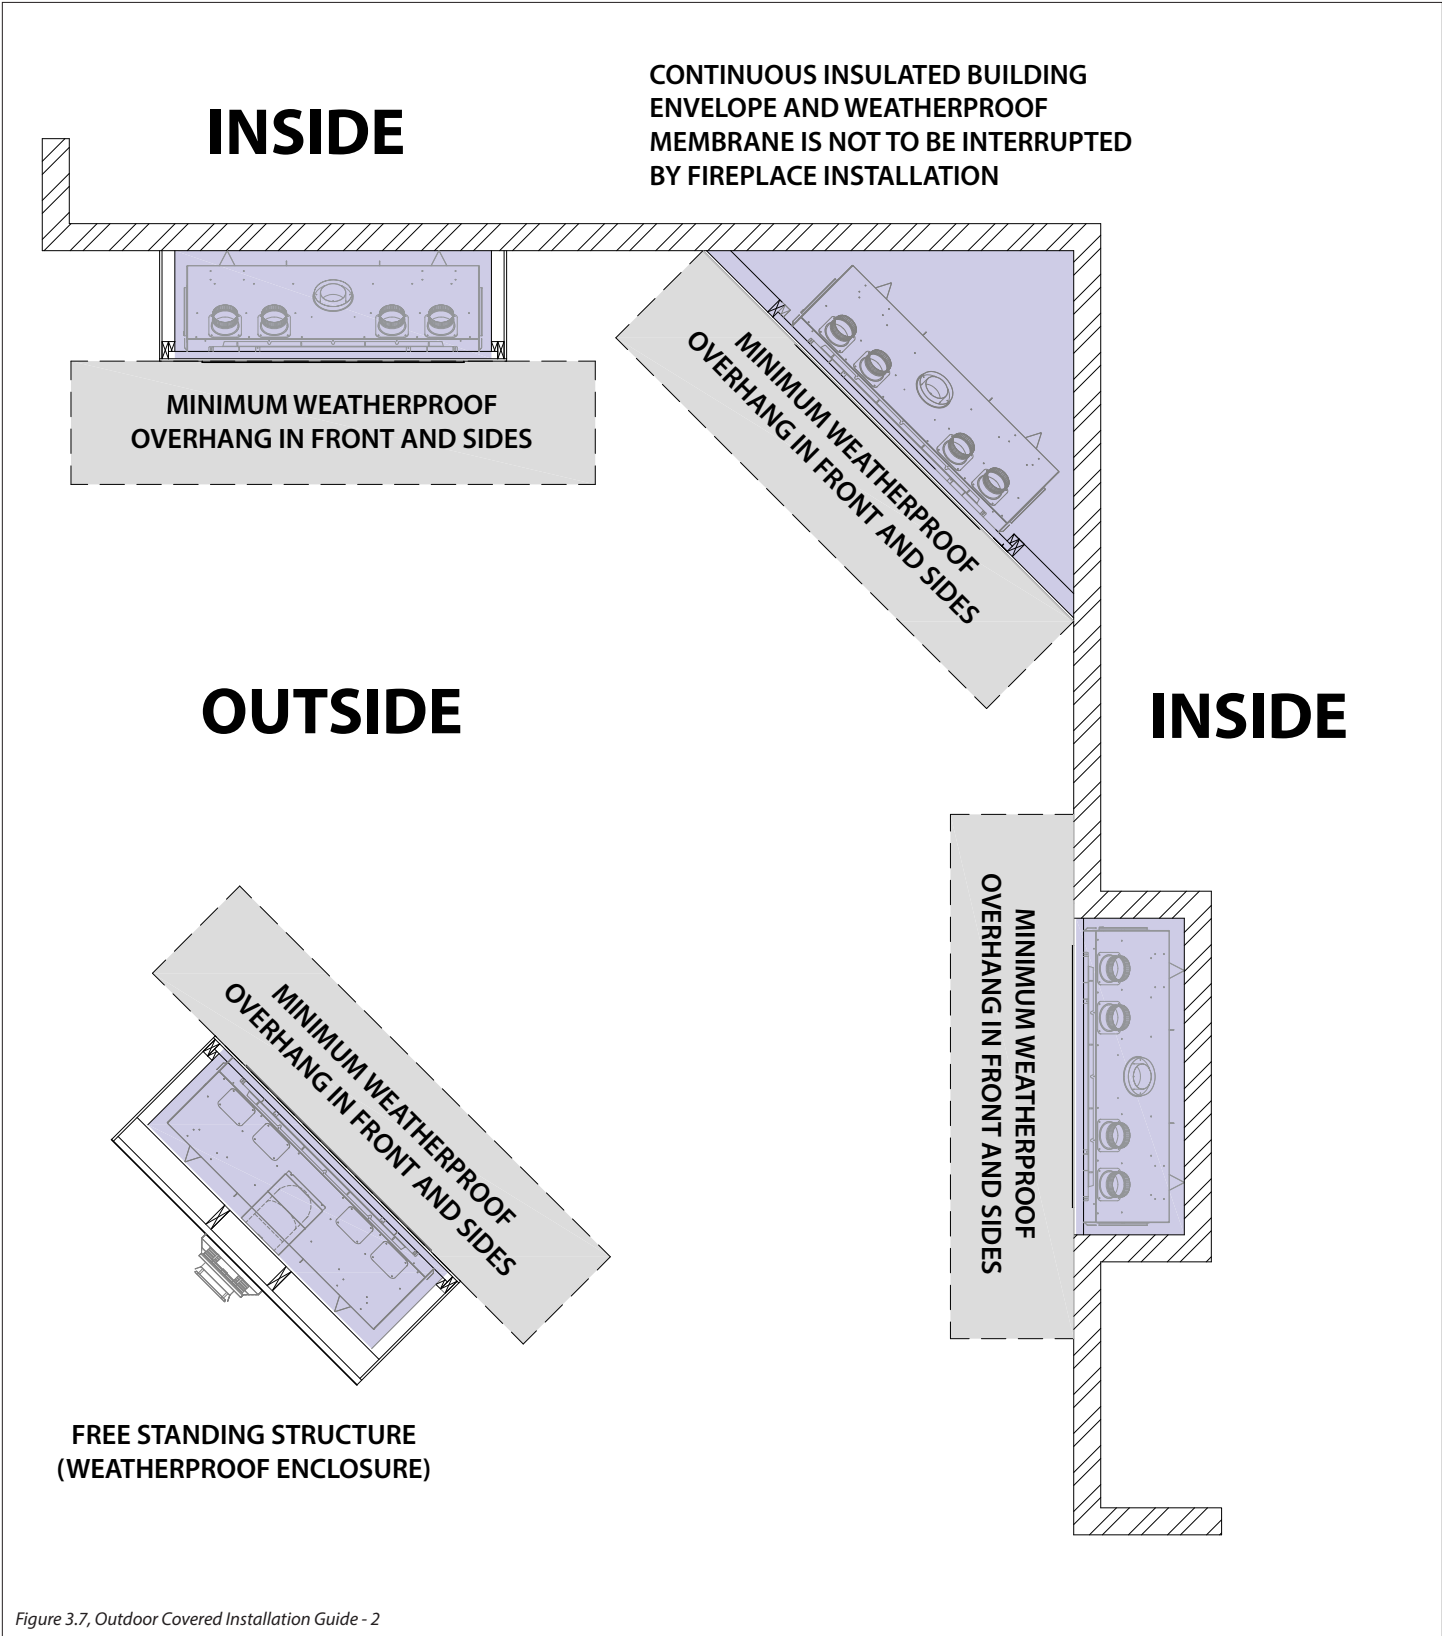

Figure 3.7, Outdoor Covered Installation Guide - 2
- The continuous insulated building envelope and weatherproof membrane is not to be interrupted by fireplace installation. See Figure 3.7 on the following page.